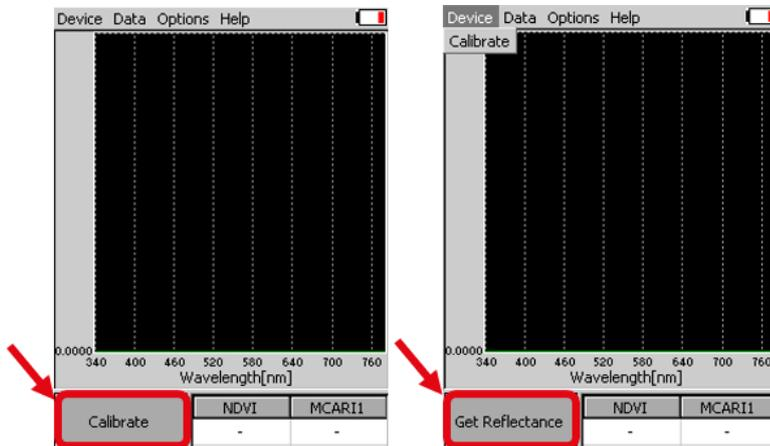

Fig. 4 PolyPen calibration.
- In the main window go to > Calibrate >press OK (Fig. 4).
- After the calibration step is performed, Main window icon Calibrate will change into Get reflectance (Fig. 4). Get Reflectance – shows up after successful calibration, measures and stores reflectance spectrum.